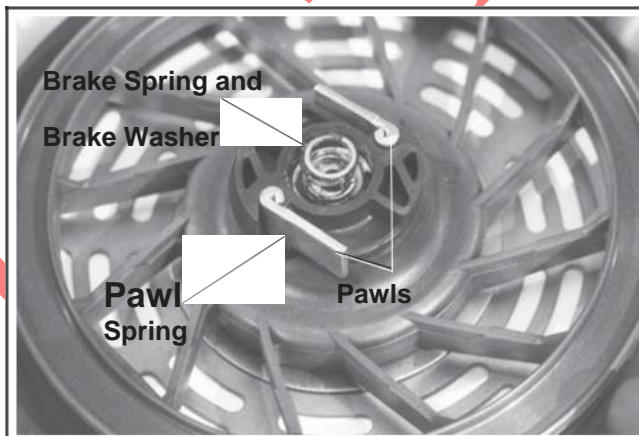

Figure 7-6. Brake Spring and Washer, Pawls, and Pawl Springs.
3. Remove the brake spring and brake washer. See Figure 7-6.